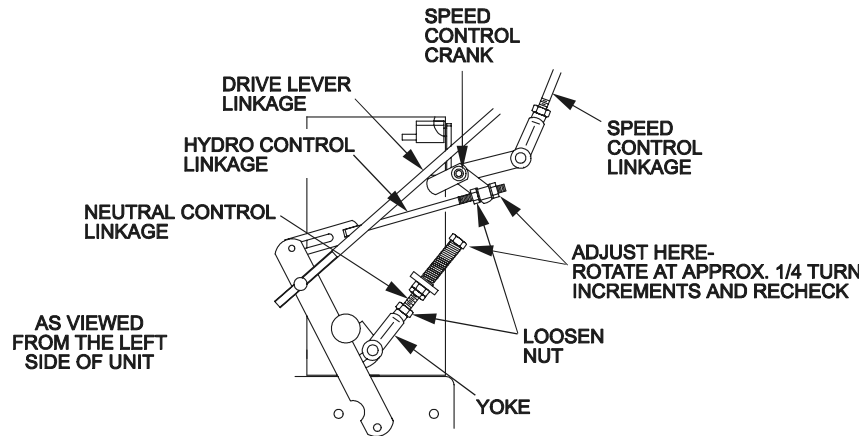
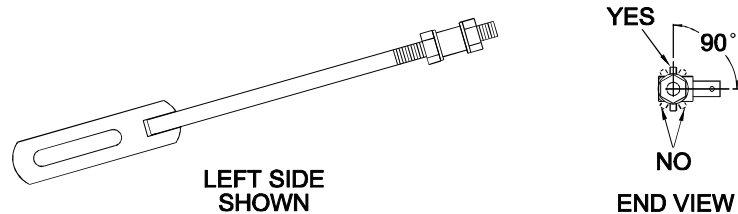

FIGURE 12
FIGURE 13
4. Loosen the nut against the neutral control linkage yoke as shown in Figure 12.
2. Loosen the front nut on **left** hydro control linkage as shown in Figure 12. Turn the rear control linkage adjusting nut counter-clockwise until wheel rotates forward. Turn the rear nut of left control linkage clockwise 1/4 of a turn at a time, stopping to move the speed control forward and back to neutral, until left wheel stops rotating forward. Turn the rear nut an additional 1/2 turn and tighten the front nut making sure not to put a bind on the linkage. Make sure flat part of linkage is perpendicular to pin part of swivel. See Figure 13.